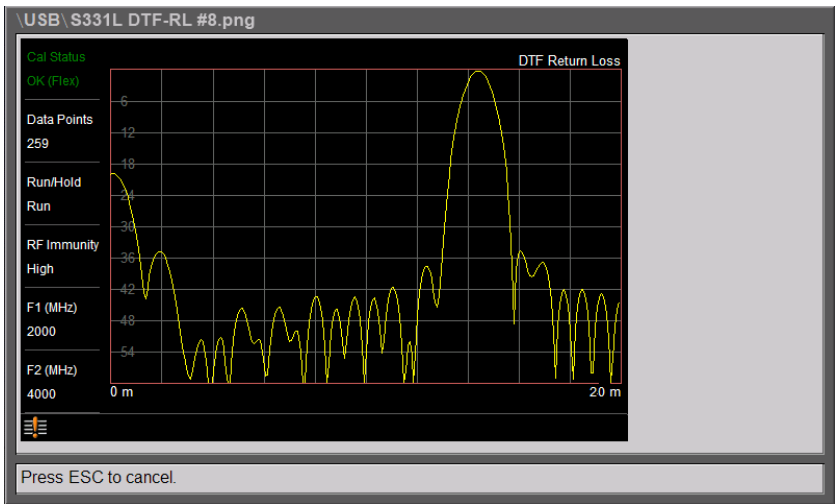

Figure 8-12. Preview of a Recalled Screen Shot
6. A preview screen displaying the selected screen shot is illustrated in Figure 8-12. Press **ESC** to return to the File Recall menu.